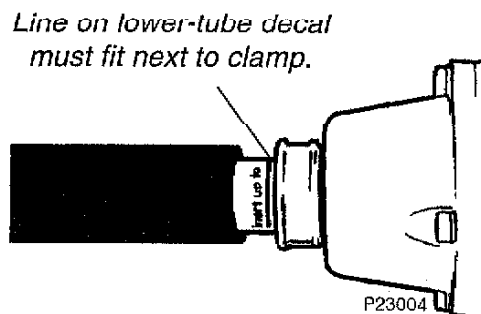

Figure 5
3. Remove the protective cap from the end of the outer tube, then slide the outer tube into the tube clamp until the outer tube bottoms. See Figure 5. If installation is difficult, rotate the outer tube until you feel the mainshaft splines engage the powerhead. When the outer tube is in place, the ruled line on the lower tube decal is flush with the tube clamp as shown in Figure 5.